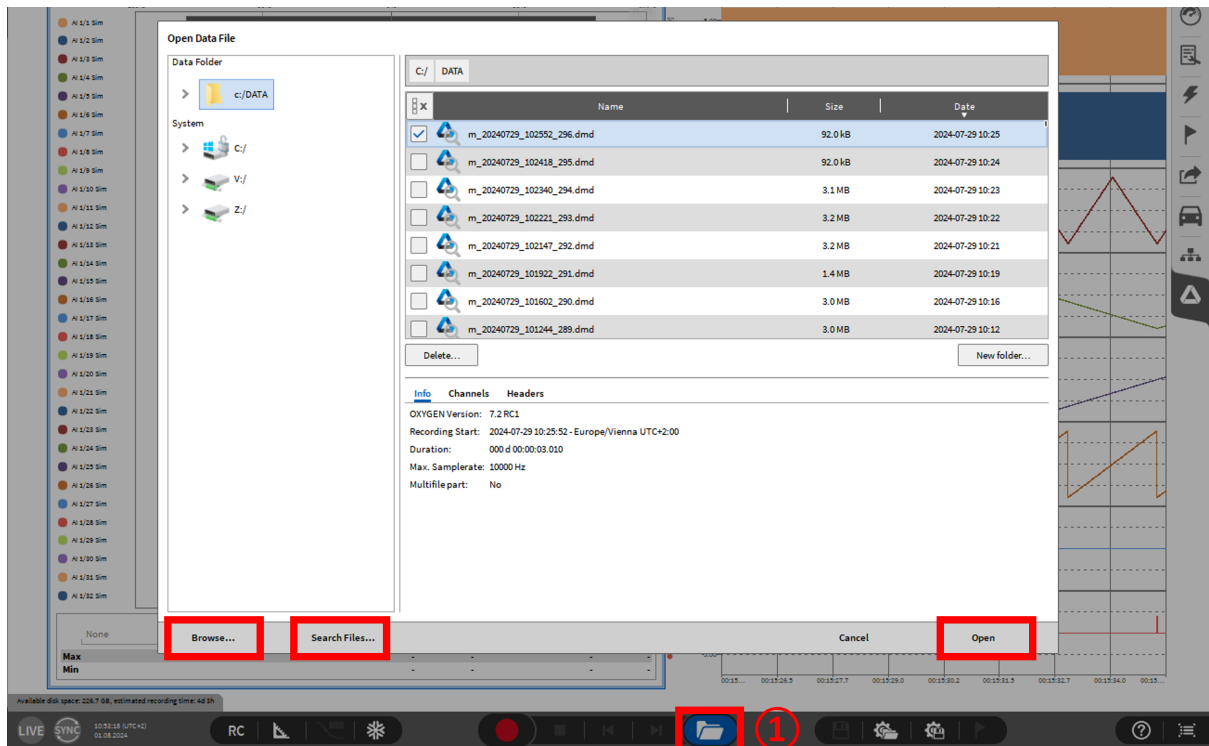

Fig. 3.15: Opening a Data File
1. Touch or left click the folder icon in the Action bar (see ① Fig. 3.15 or ⑫ in Fig. 3.5)
- The *Open* button will open the selected Setup file (see Fig. 3.15).